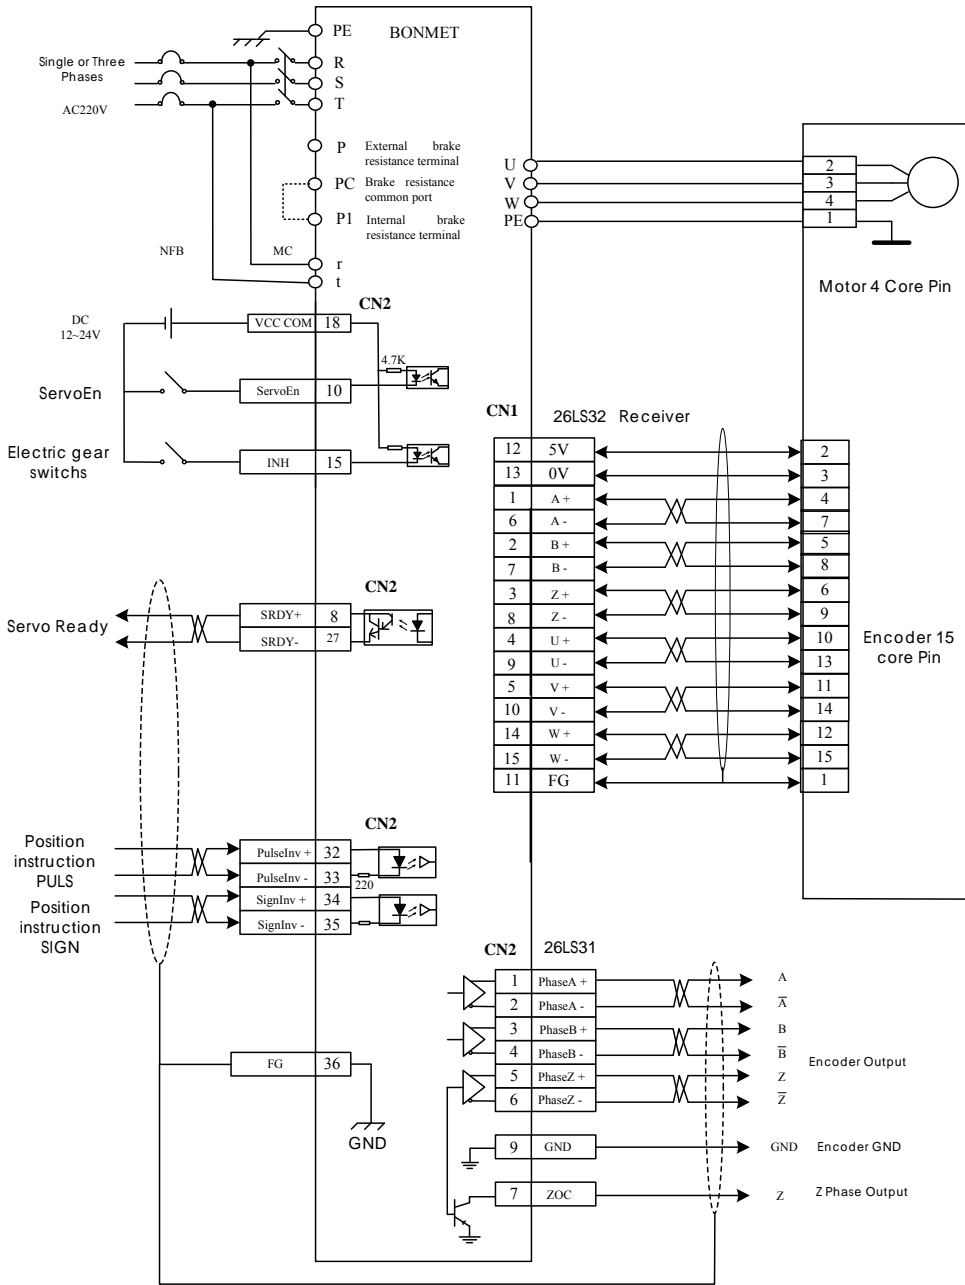

Figure 7.11 Using wiring diagram of dynamic electronic gear
3) Note :when the electronics witch shifts , it must satisfy Figure7.11, INH changes within 10ms, does not send the pulse.